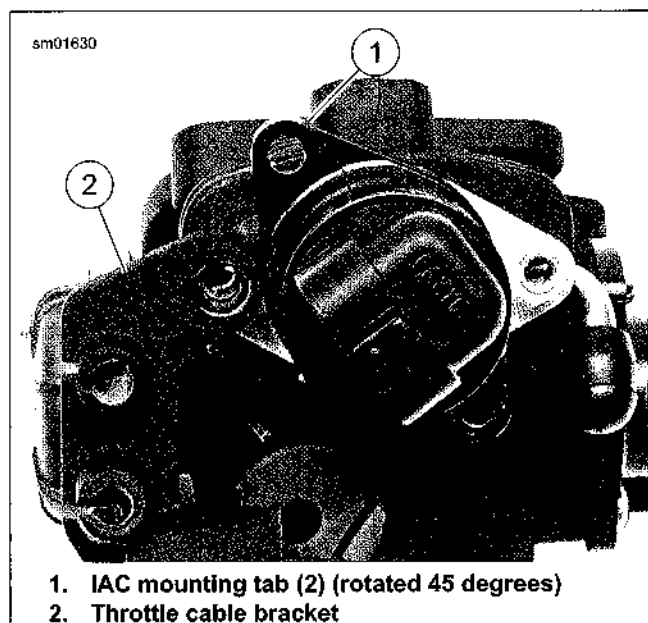

Figure 4-29. IAC Rotation
4. Using a six-point socket (not a Torx wrench), remove two screws (2) in the following order:
5. See Figure 4-29. Grasp IAC. Rotate clockwise until IAC mounting tab (1) clears throttle cable bracket (2).
4. See Figure 4-29. Rotate IAC approximately 45 degrees clockwise so IAC mounting tab clears throttle cable bracket (2) when IAC is installed.